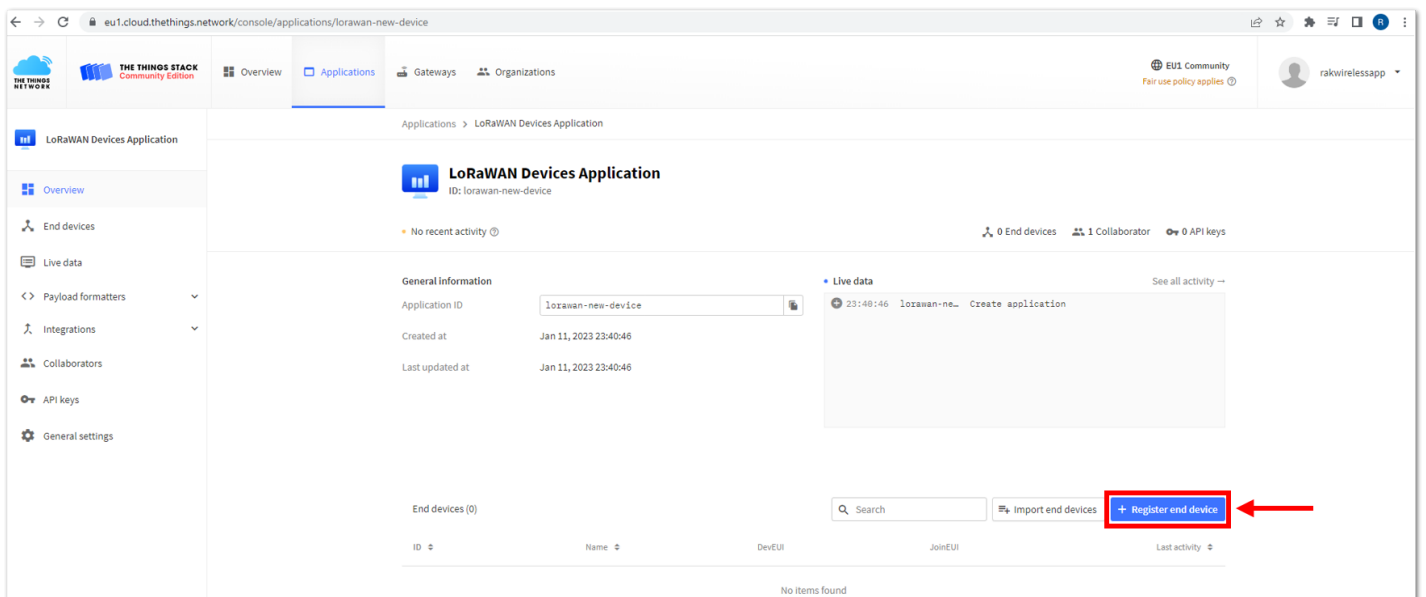

Figure 115: Adding ABP Device
1. To register an ABP device, go to your application console and select the application where you want your device to be added. Then click **+ Register end device**, as shown in **Figure 115**.